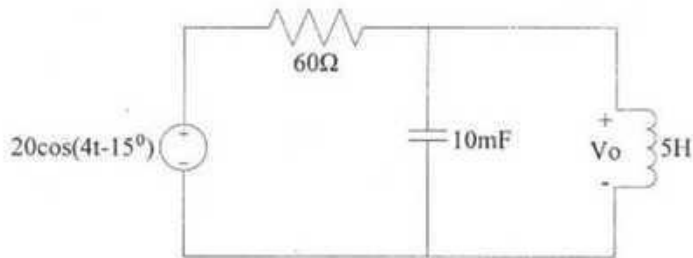

Figure 3(b)
- b. Determine  $V_o(t)$  in the circuit shown in figure 3(b) [15]